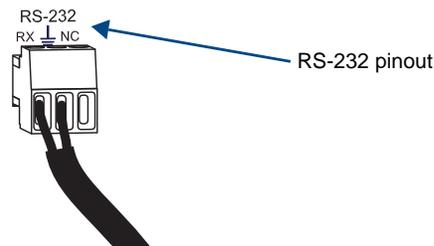

FIG. 21 Wire TX for RS-232 data transfer
1. Wire the RS-232 connector according to the pinout directly above the connector (FIG. 21).